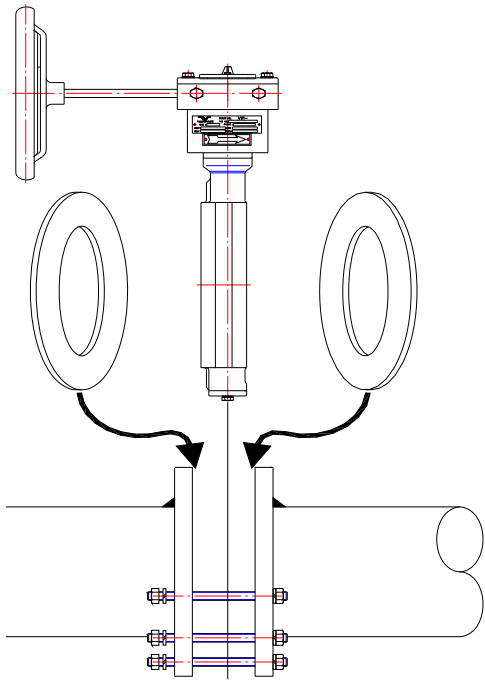

Fig.5
7.5. Install valve and gaskets into pipeline as (Fig.5).